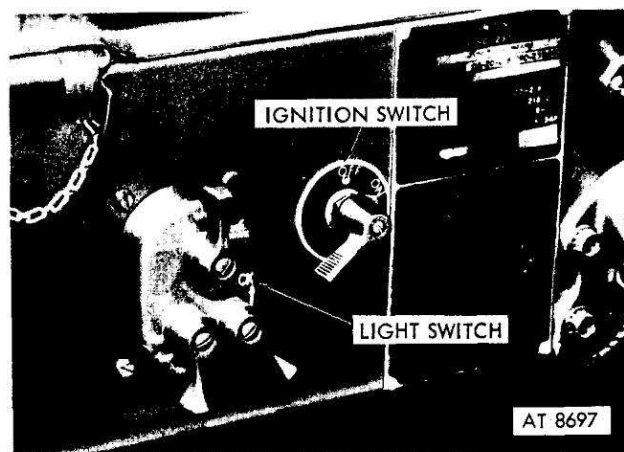

Figure 2-8. Light switch and ignition switch.
e. Turn ignition switch to "ON" position (figs 2-8, 2-1-(A)).